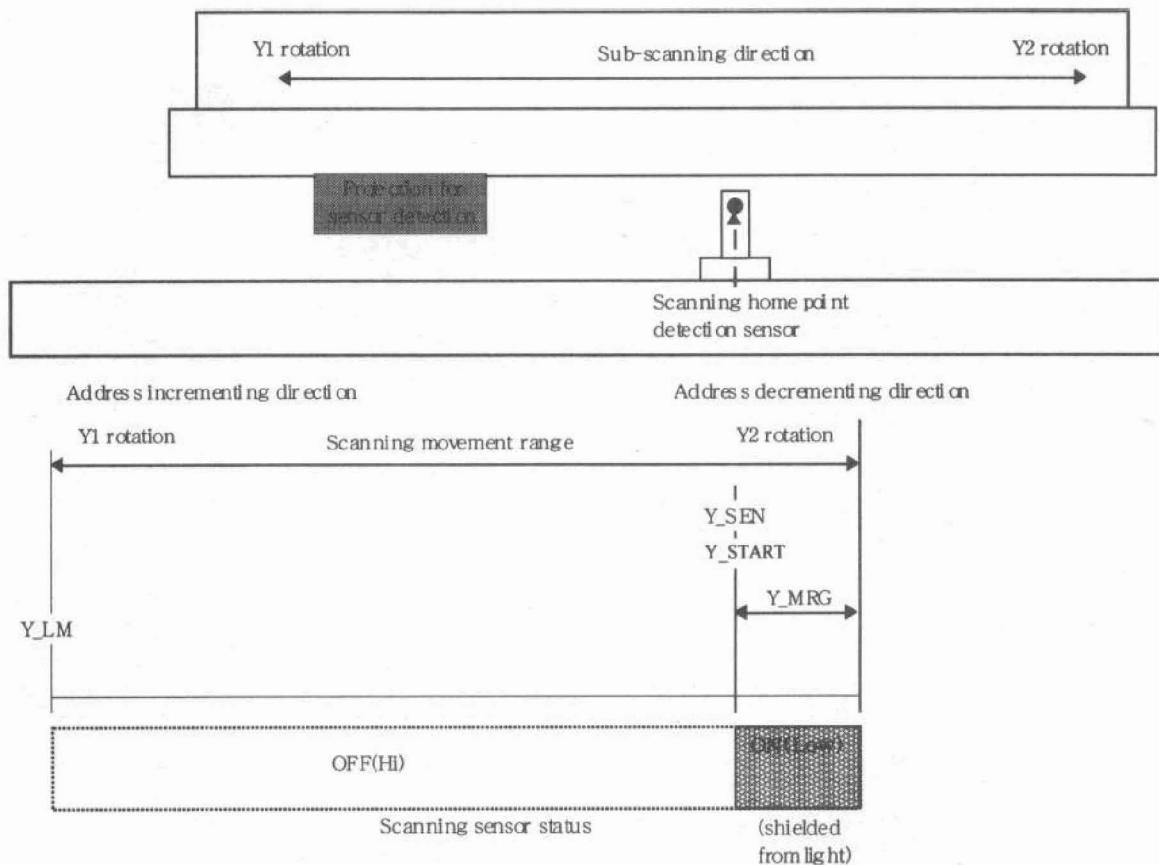

Fig. 1-1
- Scanning home point detection (see Figs. 1-1, 1-2)
- AF home point detection (see Figs. 1-1, 1-2)